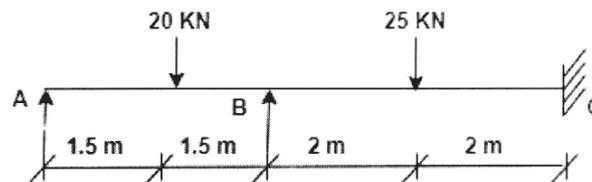

Figure 5
- b) Analyze the beam shown in figure 5 by Moment Distribution Method. [8]